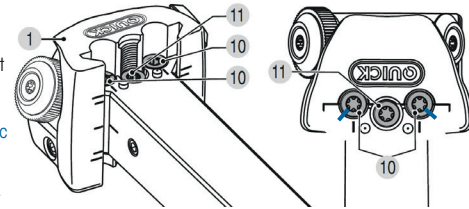

Fig. 3: Clamping the tool head
For this purpose, loosen the eccentric pins (Fig. 3, pos. 10) inwards and adjust the tool head with the spindle (Fig. 3, pos. 11).
After the centre height has been adjusted, clamp the eccentric pin (Fig. 3, pos. 10) outwards (Fig. 3, blue marks).